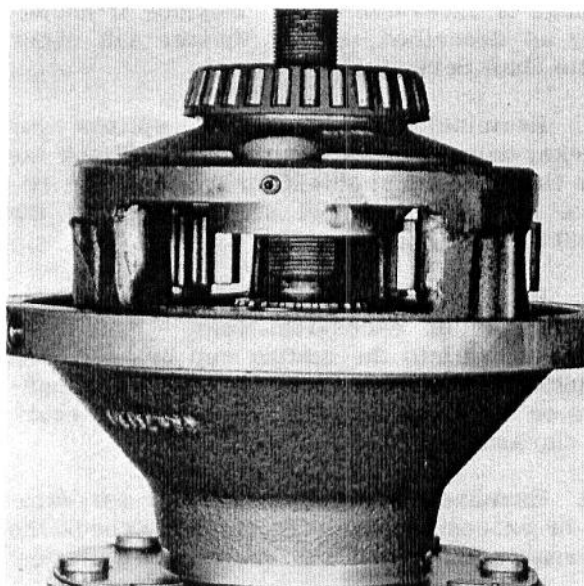

Fig. 30 - Special Tool MFN 265 and MFN 764.3 in Position
- b. Using a press, force the planetary carrier into contact with the axle retaining ring. The inner end of the wheel axle will protrude about 1/8 of an inch from the inside of the planetary carrier when in position. Fig. 30, shows location before pulling.